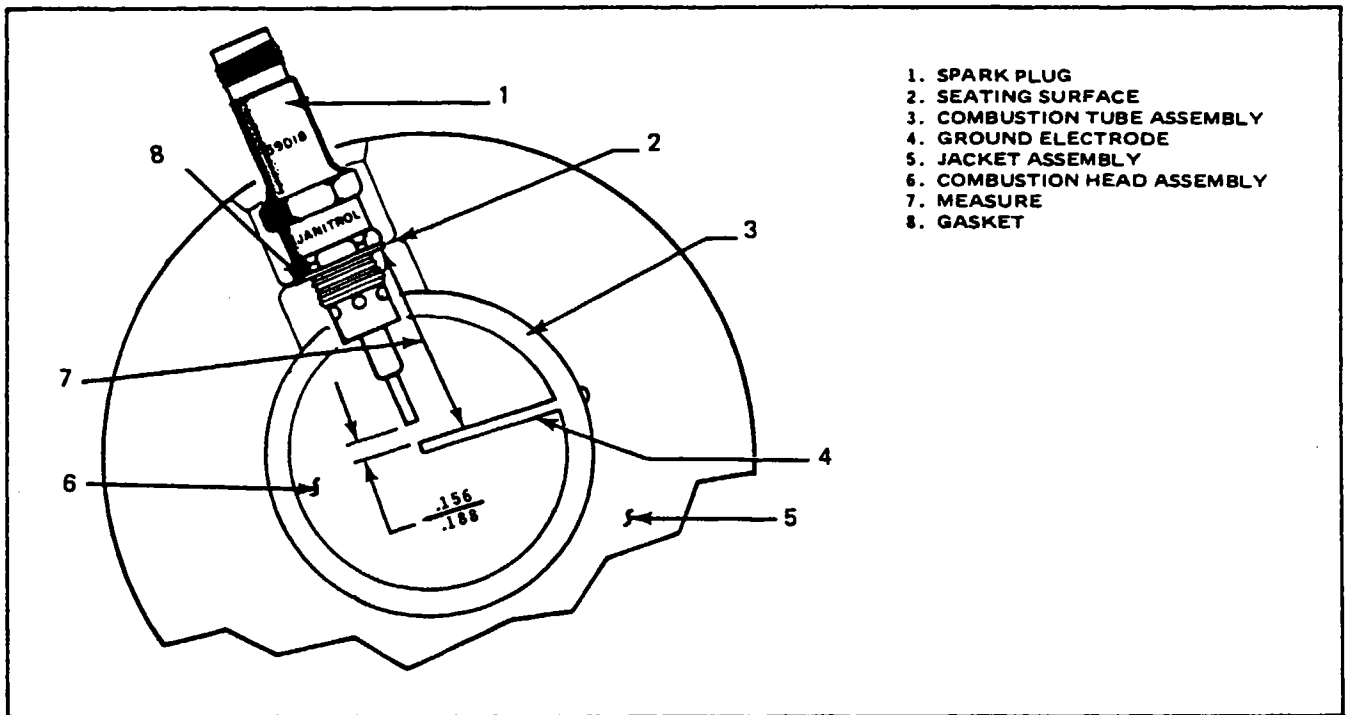

Figure 13-12. Spark Plug Gap Adjustment
c. Spark Gap Check and Adjustment: (See Figure 13-12.) A spark gap of 0.156 to 0.188 inches must be maintained on the P/N 39D18 spark plug. This gap should be checked any time a plug is replaced or at the time of heater overhaul. A spark gap greater than that specified can shorten the life of the ignition assembly. There are several methods in which the spark gap of this heater may be checked. Method I is recommended when the heater is being overhauled and before the installation of the fuel nozzle. Methods II and III are suitable for checking the gap through the spark plug well when the heater is not disassembled.
d. Installation: (Refer to Figure 13-12.)